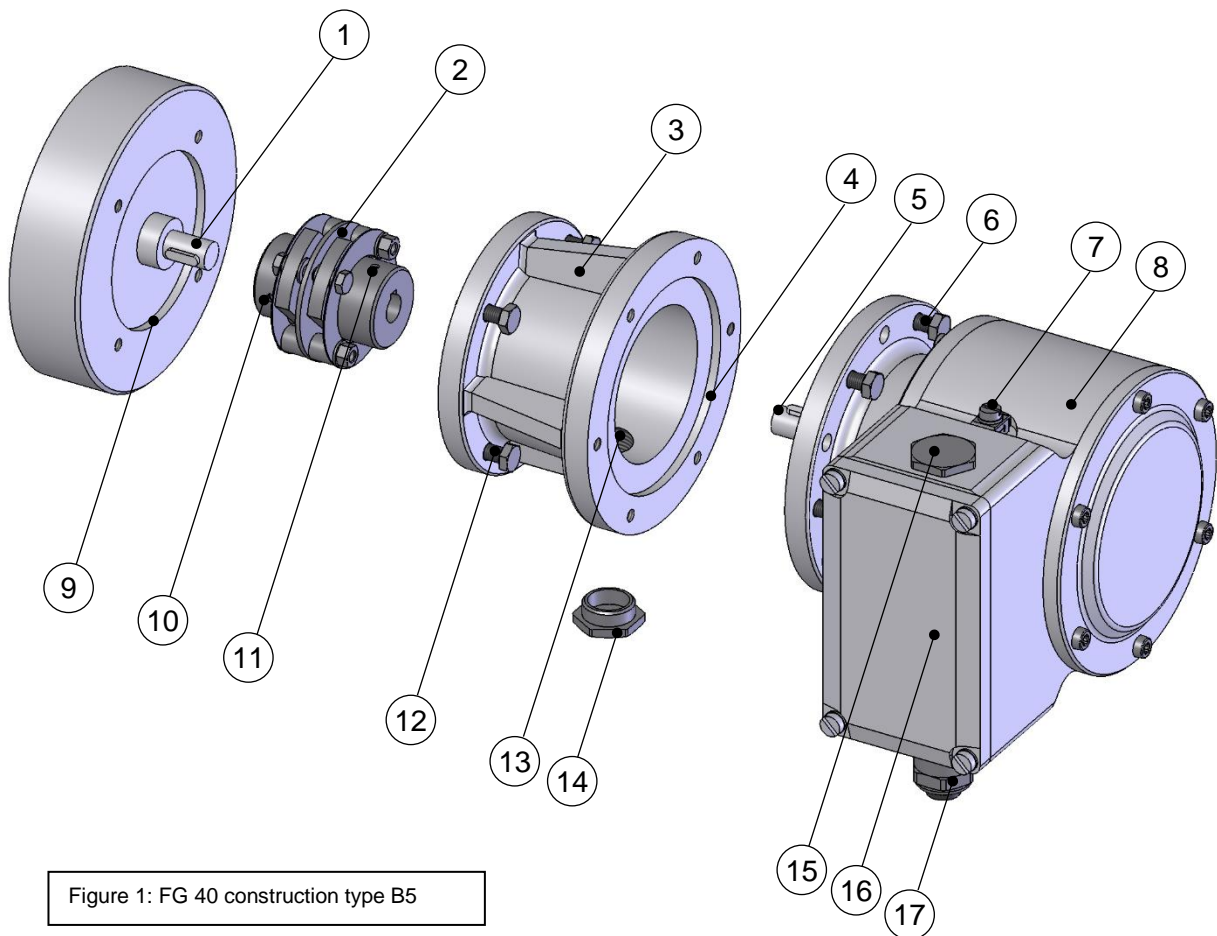

Figure 1: FG 40 construction type B5
1. Open the terminal box cover (16, Fig.1).
2. Remove the cap of the cable gland (17, Fig. 1).